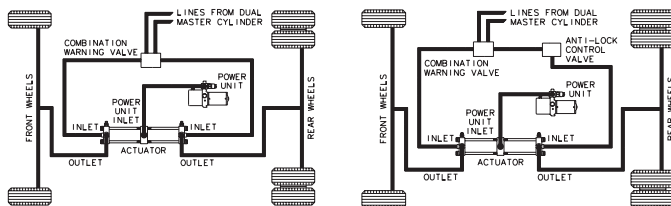

**FIGURE 20**
6. Connect one end of the new tubing to the dual actuator. See Figure 20.